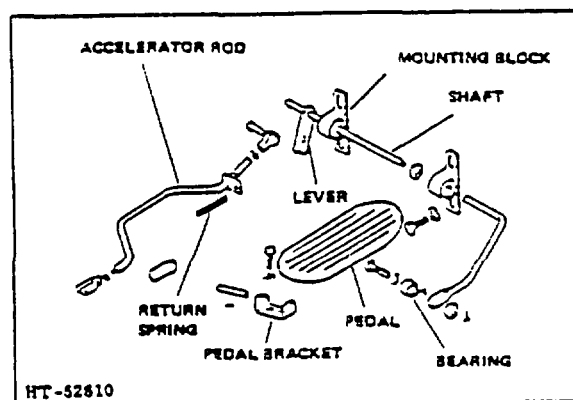

Figure 5-1. Accelerator and Linkage (Type I)
1. Ensure that all mechanical connections are securely made, as indicated in accelerator and linkage exploded view, Figures 5-1 and 5-2.
1. Pedal. Remove "E" clip from pedal hinge pin, slide pin out of pedal and bracket and remove pedal (Figure 5-1 and 5-2).